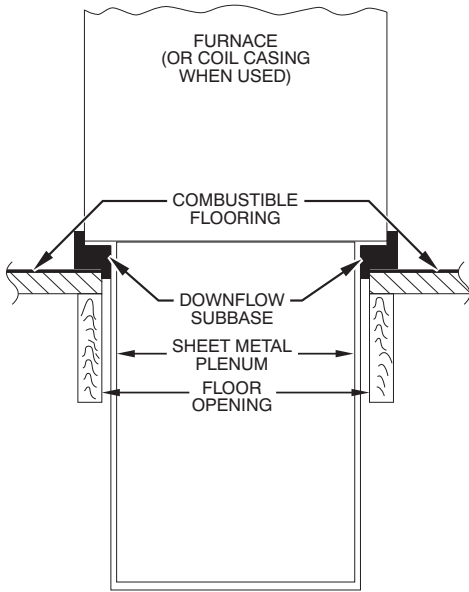
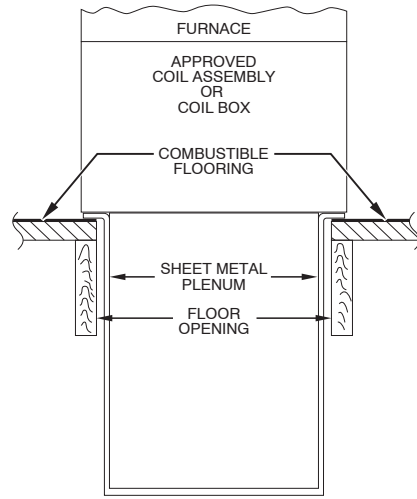

Fig. 12 - Furnace, Plenum, and Subbase Installed on a Combustible Floor
Fig. 13 - Furnace, Plenum, and Coil Assembly or Coil Box Installed on a Combustible Floor
4. If downflow subbase is used, install as shown in Fig. 12. If Coil or Coil Casing, install as shown in Fig. 13.